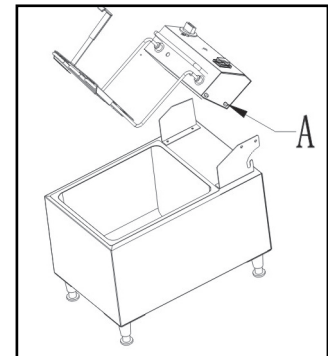
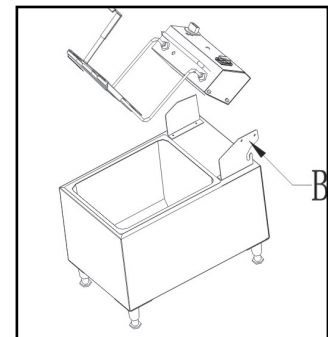

Fig. 6-1
Fig. 6-2
1. Lower the element into pot by following the two simple steps (Fig. 6-1 and Fig. 6-2). Point A cradles and guides the head to unit's body.